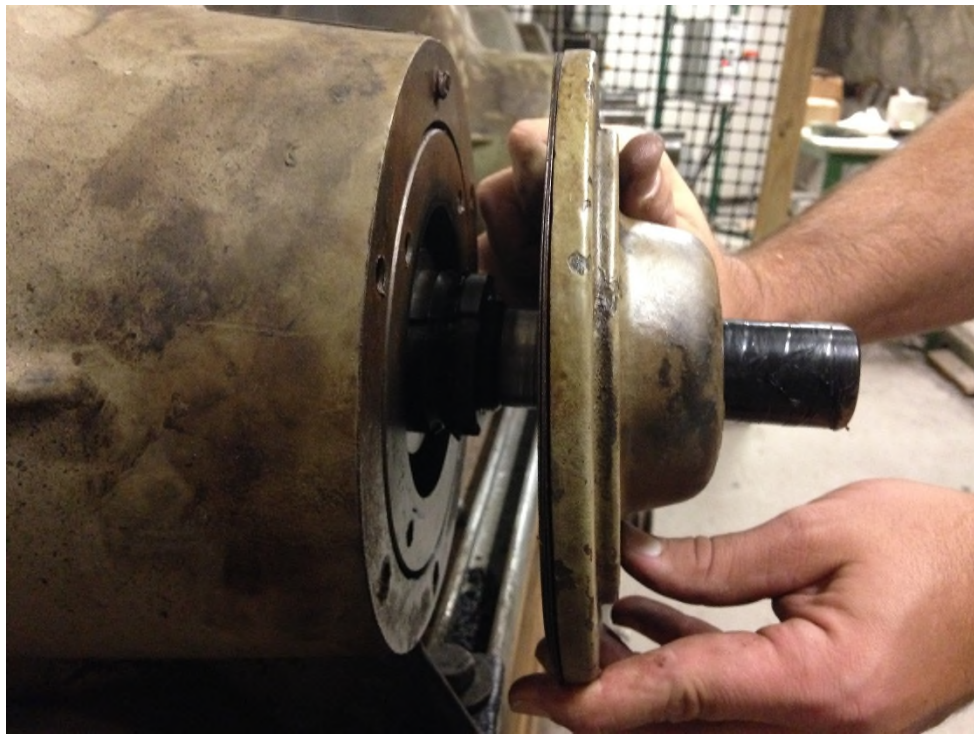

Figure 3. Slide the seal, pinion cap, and shims over the shaft until the cap bears against the pinion cage mating surface.
10. Apply a coating of oil to the seal lip and over the electrical tape. Carefully slide the seal, pinion cap, and shims over the shaft until the cap bears against the pinion cage mating surface. See Figure 3.